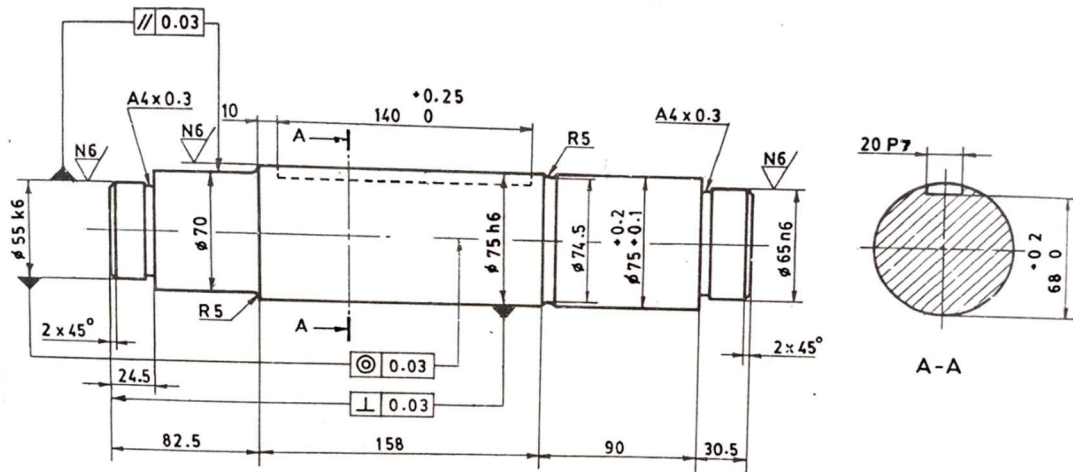

Figure-4 Stepped shaft
1. A stepped shaft is shown in figure-4. Read the following: